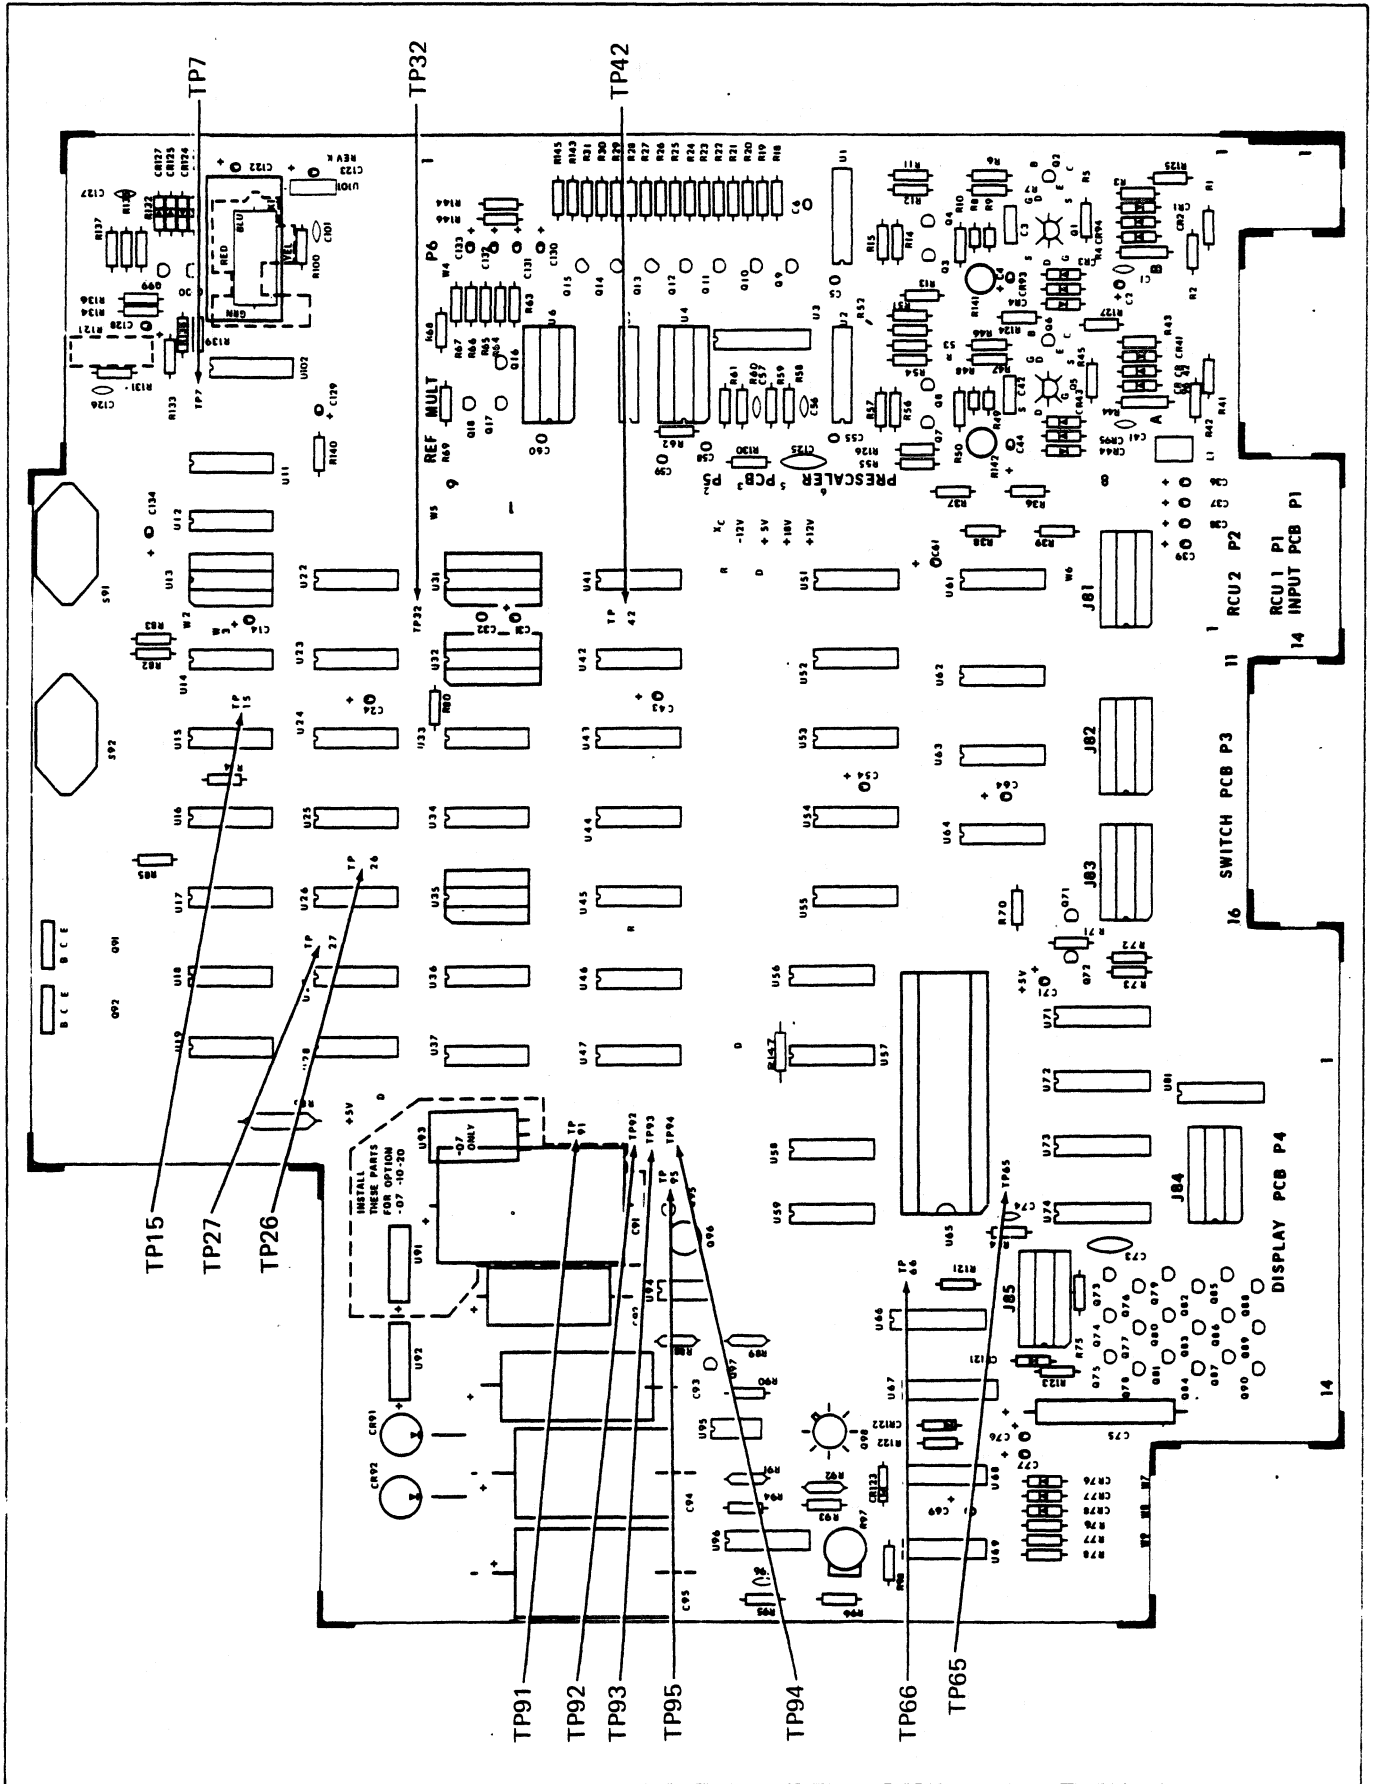

Figure 4-1. Test Point Locations, Main PCB
- c. All connectors referenced for measurement are accessible from the top of the unit when the dust cover is removed. See Figure 4-1 for Test point identification.